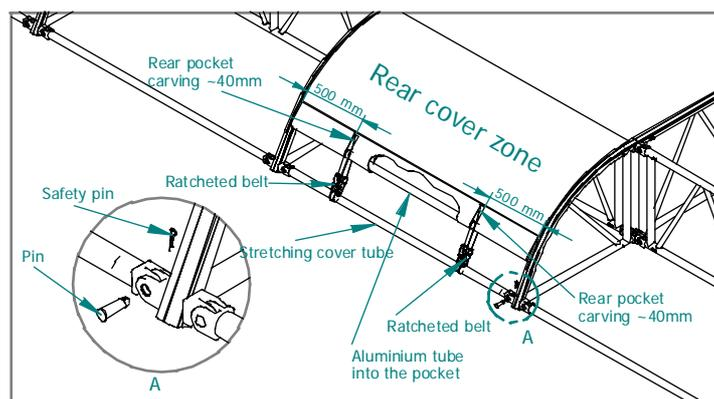

Fig. 12
8. Connect the tube within the fabric sheet back pocket, to the fabric stretcher tube found at the back of the covering structure, by using two ratcheted belts (fig. 12) and then put the fabric sheet under tension by tightening the belts.